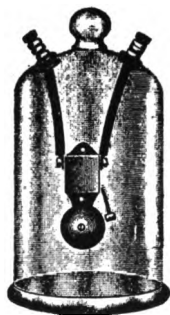

FIG. 124
**158. Medium through Which the Vibrations Get to Our Ears.** Just as in heat and light, so in sound, vibrating substances set up waves; the difference being that sound waves are not transmitted by the ether, but by gases, solids, and liquids, things with which we are all familiar. Commonest of these is the air. By means of the apparatus shown in Figure 124, it can be shown that ether is not the medium through which sound waves pass. An electric bell is suspended in the bell jar by means of the coils of wire, which also serve as conductors for the current that rings the bell. As long as there is air in the bell jar, the ringing of the bell can be heard distinctly.